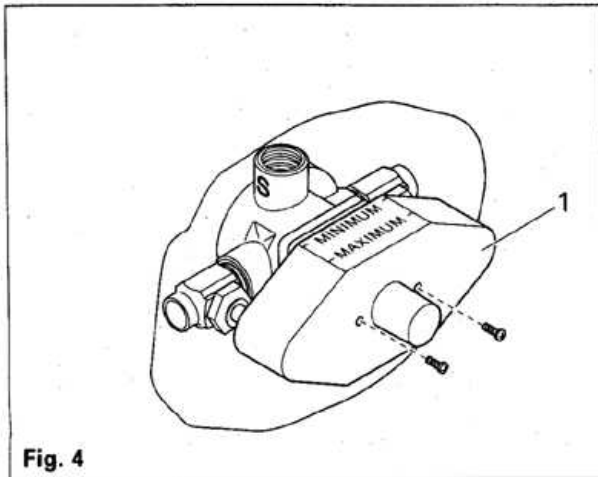

Fig. 4
- Position valve with 1/2" shower outlet marked "S" up and the 1/2" tub outlet marked "T" down. Finished wall must be within dimensions shown on finish wall template (1) (see Fig. 4).